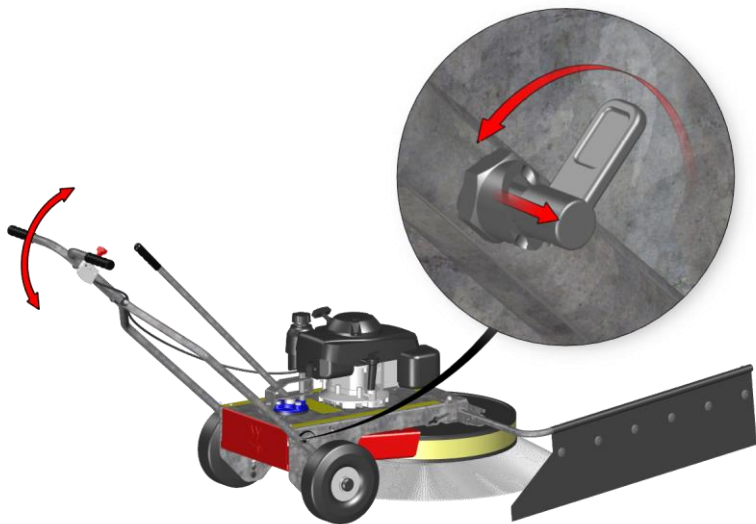

Fig. 22: Handle height
1. Unlock the locking bolts on both sides in accordance with Fig. 22.